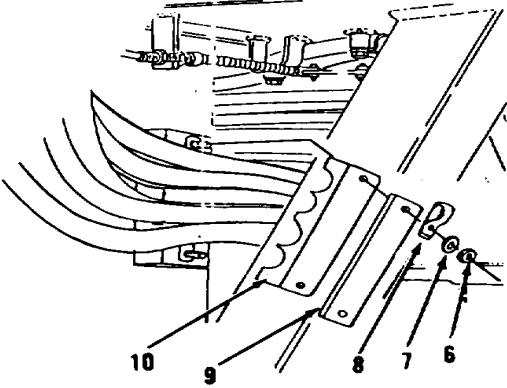

Figure 16-2.
2. Remove two nuts (6), washers (7), clip (8), plate (9) and clamp (10, Figure 16-2) from under left, rear of cab.